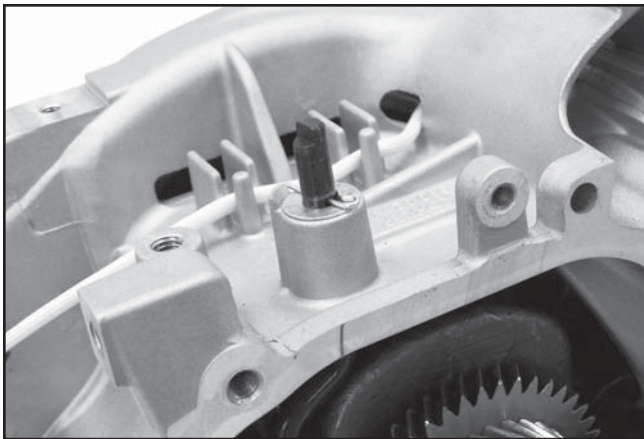

Figure 11-13. Installing Thrust Washer and Hitch Pin.
4. Install the second flat washer onto the shaft. Position the shaft so the flat index end of the shaft faces to the left (9 o'clock position) and insert the hitch pin from the PTO side. See Figure 11-13.